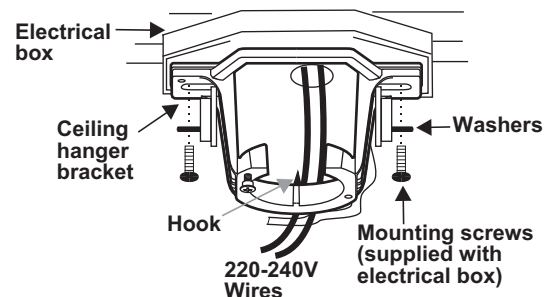

Figure 3
3. Secure the hanger bracket to the ceiling outlet box using screws and washers included with your outlet box. (Fig. 3)